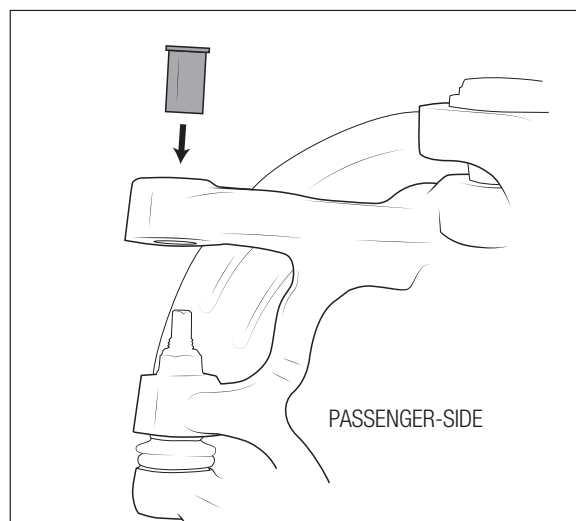

Figure 33
20. Insert tapered bushing into the new knuckle (fig. 33).